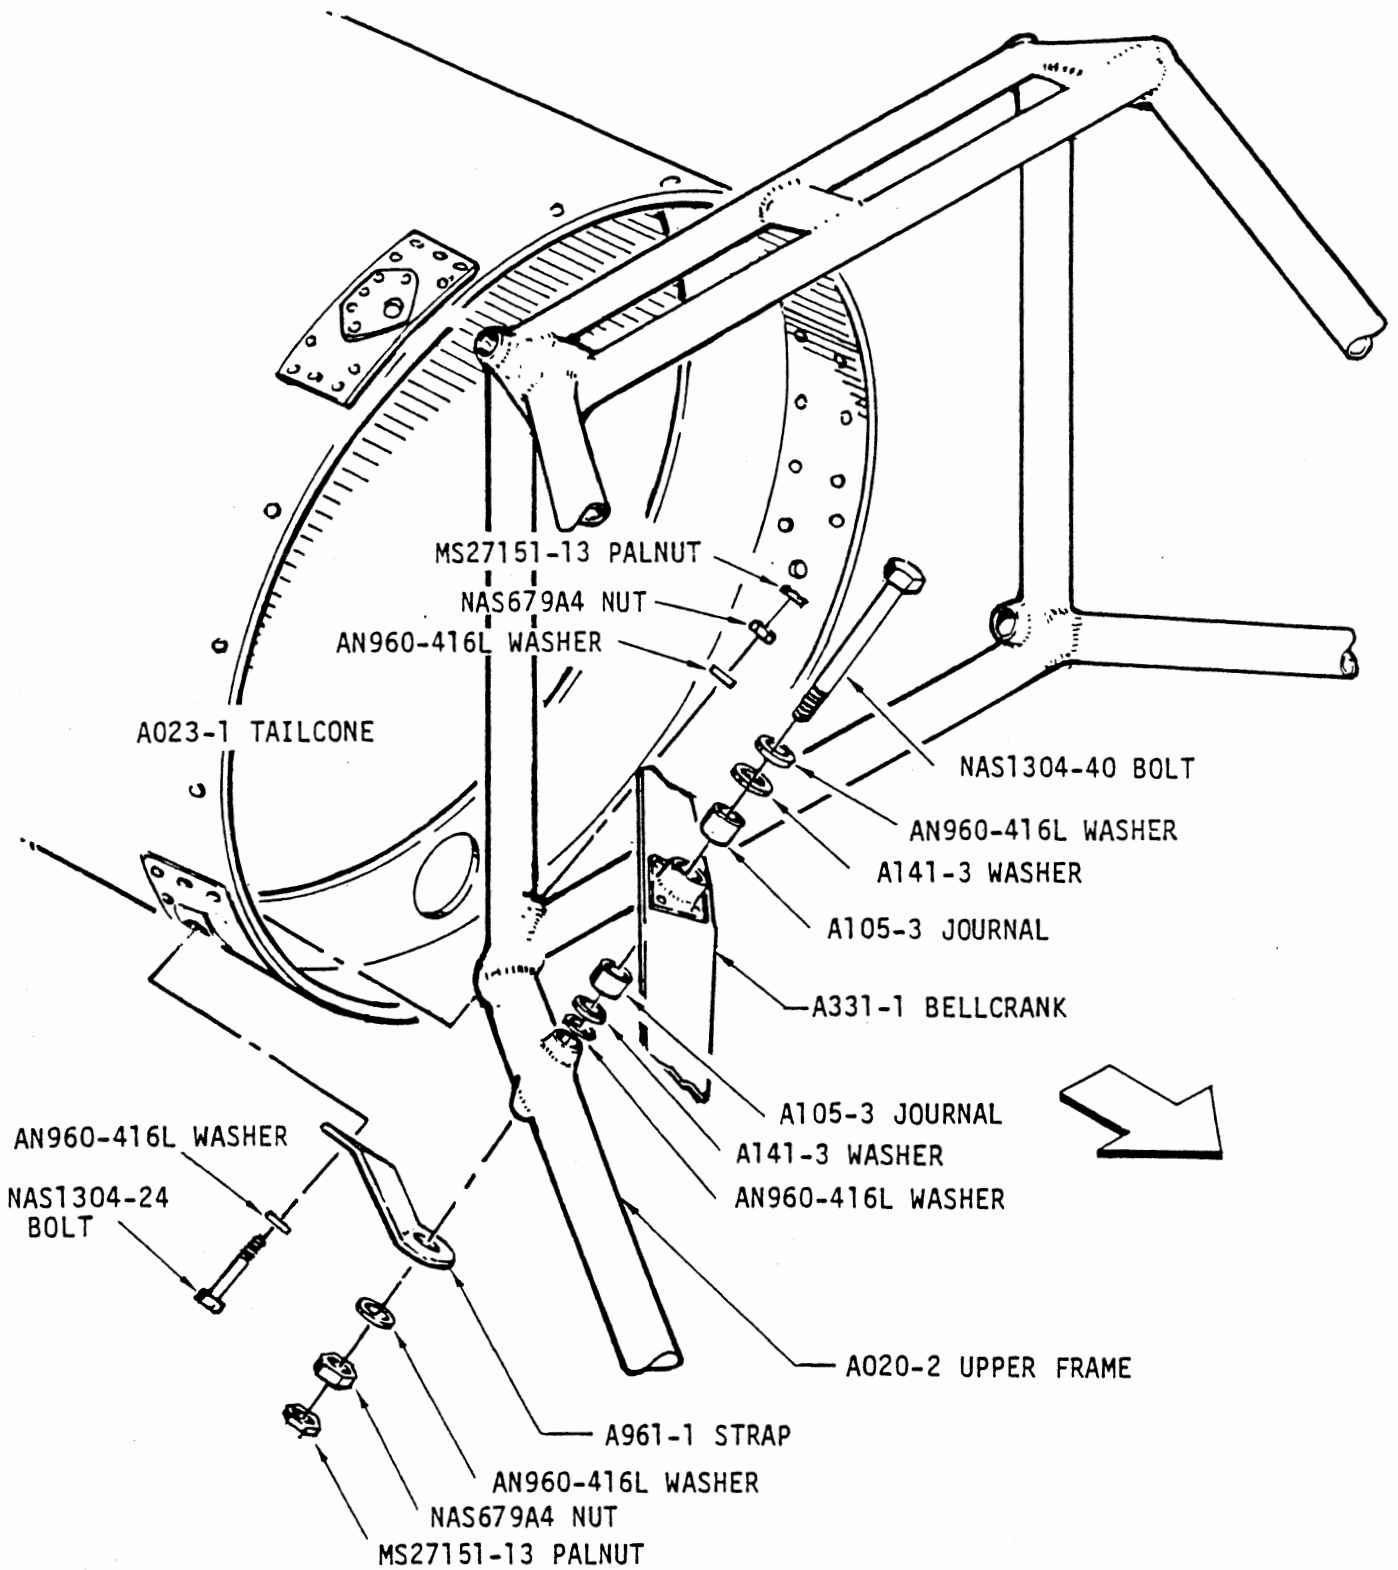

FIGURE 2.
2. Install the A961-1 strap at the Bellcrank attachment per Figure 2. The strap must set flush with the tailcone and bellcrank attachment fitting. If not, clamp one end of strap in a vise and bend slightly to make fit flush. Insert the .250" dia. punch (from KI-15 Kit) through frame attachment hole. Place a bucking bar behind the strap. Tap the punch firmly to mark the strap for drilling.
5. Reassemble the A961-1 strap to the frame per Figure 2. Torque all nuts to 100 in.-lbs per Section 1.300 of the Robinson Maintenance Manual.